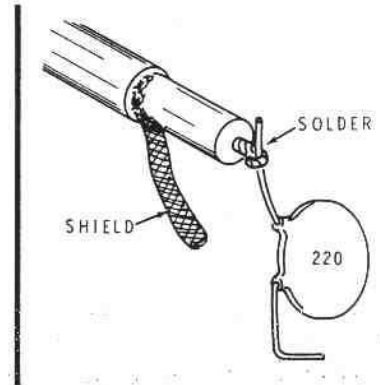

Figure 3-6
- () Refer to Figure 3-6 and connect one end of the cable center conductor to the 220 pF capacitor (S-1).